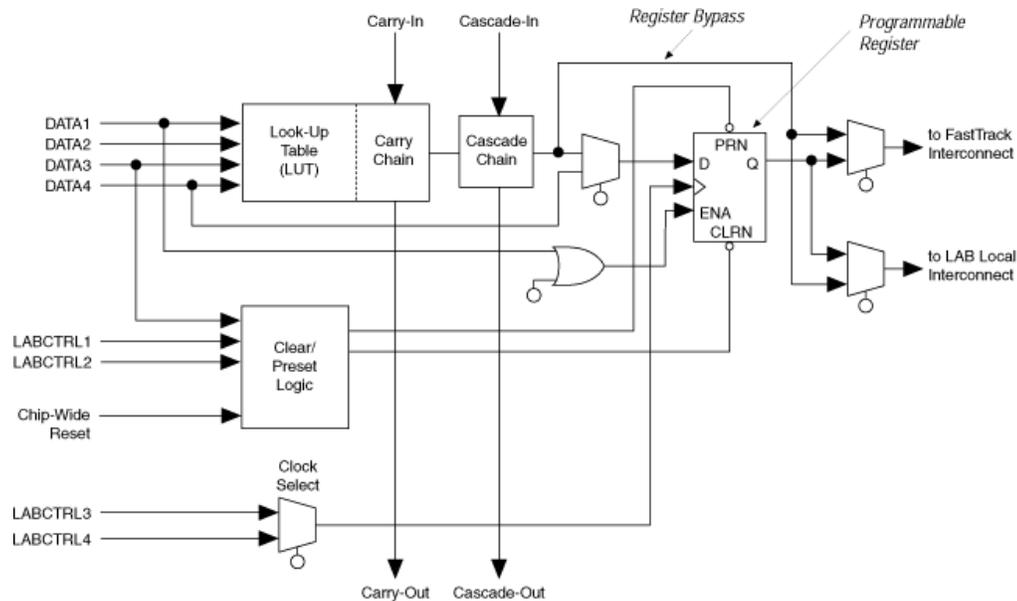

Figure E.8 FLEX 10K logic element (courtesy of Altera).
LAB. These local wires are used to make connections to the inputs of the logic elements, and the logic element outputs also feed back to the local wires. Logic element outputs also connect to the adjacent row and column wires. The structure of a logic element is depicted in Figure E.8. The element has a four-input LUT and a flip-flop that can be bypassed. For implementation of arithmetic adders, the four-input LUT can be used to implement 2 three-input functions, namely, the sum and carry functions in a full-adder.
The Altera APEX 20K [5] family is the next generation product following the FLEX 10K. The logic element (LE), which is an optimized version of the one depicted in Figure E.8, contains a four-input LUT and a flip-flop. Chips range in sizes from 1200 to 51,840 LEs.